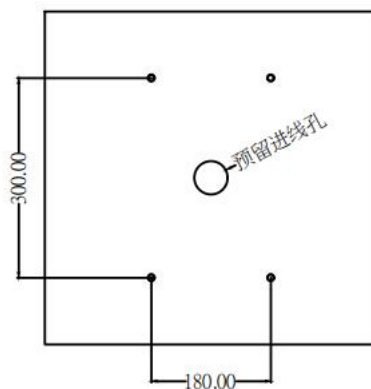

Figure 4 Schematic diagram of cement base of charging pile
Before installing the charging pile, the cement foundation should be poured, the size of the cement foundation should be greater than 500mm\*500mm\*200mm, and the depth of the foundation should be 300mm. The design of the cement foundation can be adjusted according to the user's requirements and the actual situation on the site. The cement base diagram is shown in Figure 4. The requirements for foundation inspection are as follows:
- (1) Pay attention to the correction level when the foundation is poured.
- (2) The foundation installation is higher than the ground level, and the necessary maintenance channels are reserved according to the specific space on site.
- (3) The foundation surface drain is slightly inclined to avoid water accumulation.
- (4) The foundation is filled with C25 concrete.
- (5) On the basis of reserved cable holes, as shown in Figure 4.
- (6) Test the flatness with a level after the foundation is completed.
- (7) Fix the holes reserved for four M10 expansion screws. See Figure 4 for hole spacing.
- (8) Reserve one cable hole. The cable hole is calculated according to the actual cable situation on site.